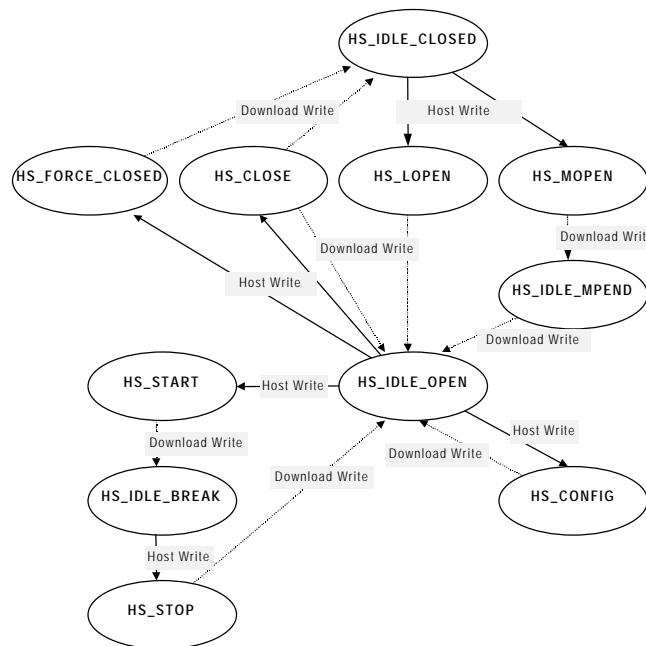

Figure 11 Channel Commands and States
- 6.5.3.3.1 Figure 11 shows possible channel commands and states set using the hi_hstat field.